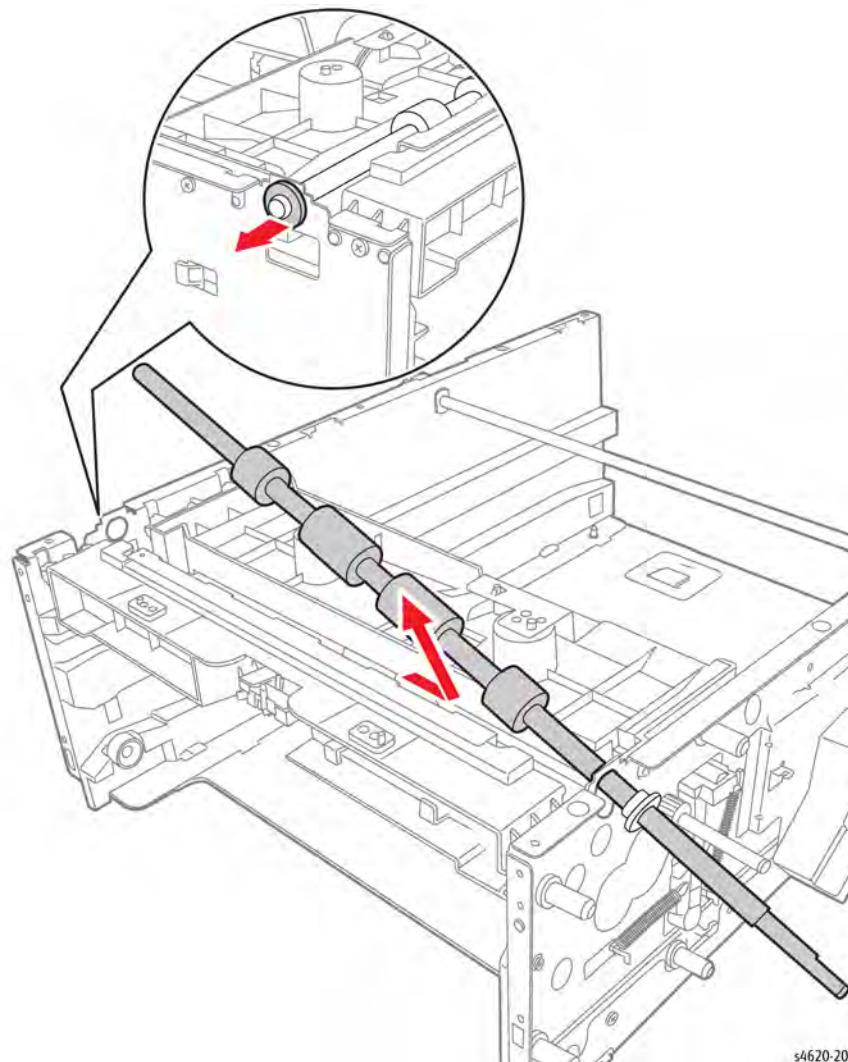

Figure 3 Remove the Take Away Roller
12. Remove 2 E-clips and 2 bearings, then move the shaft to release it from the chassis, Figure 3.